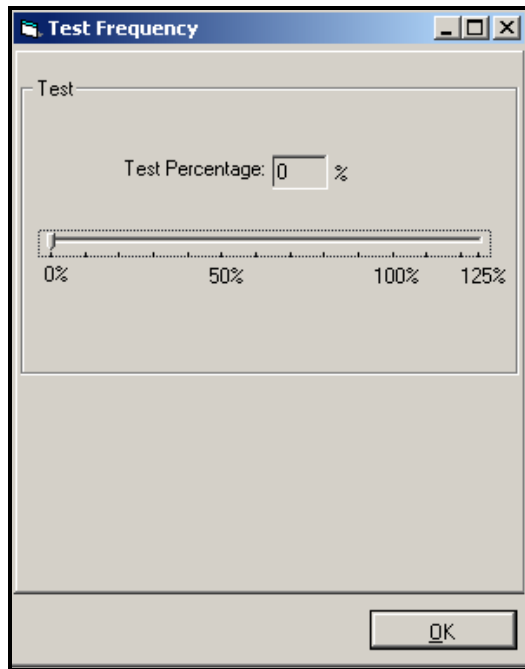

Figure 3-15: Test Frequency Window
3. The screen should now look similar to Figure 3-15 below. Use the mouse to move the Test Percentage pointer to 0%. Read the frequency value on the oscilloscope. The oscilloscope should read the Zero value. Next, set the Test Percentage pointer to 100%. Read the frequency off the oscilloscope. The oscilloscope should read the Span value.